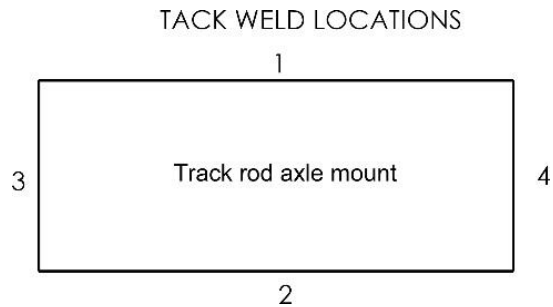

Figure 11, Tack Welding Axle Mount
7. Tack weld all 4 sides of the axle mount to the axle housing as shown in Figure 11